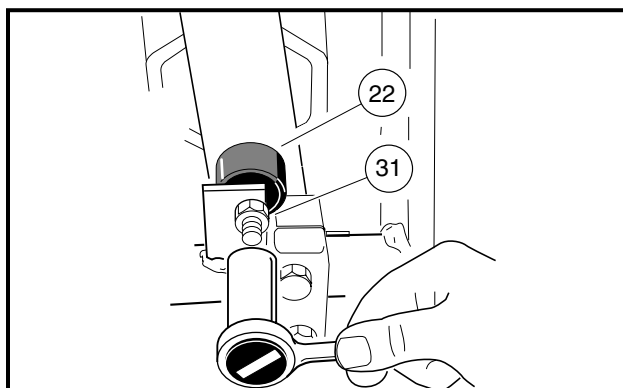
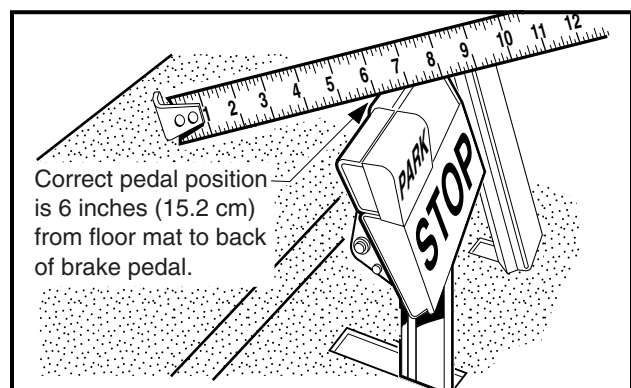

Figure 5-34 Brake Pedal Height Adjustment
Figure 5-35 Brake Pedal Height Measurement
- 2.3. Loosen the brake stop jam nut (31), then relieve pedal pressure on the stop by pushing down slightly on the pedal. Next, adjust the brake stop bumper (22) up or down (**Figure 5-34, Page 5-21**). Adjusting the bumper upward decreases distance between pedal and floorboard. Adjusting the bumper downward increases distance between pedal and floorboard. Proper brake pedal height is 6 inches (15.2 cm) (**Figure 5-35, Page 5-21**).
- 2.4. Tighten the jam nut (31) to 8 ft-lb (9.5 N·m) (**Figure 5-34, Page 5-21**).
- 3.1. Press the brake pedal and measure perpendicular from the floorboard to the back of the brake pedal, the distance that the pedal moves before all of the slack is taken out of the brake cables (**Figure 5-35, Page 5-21**).